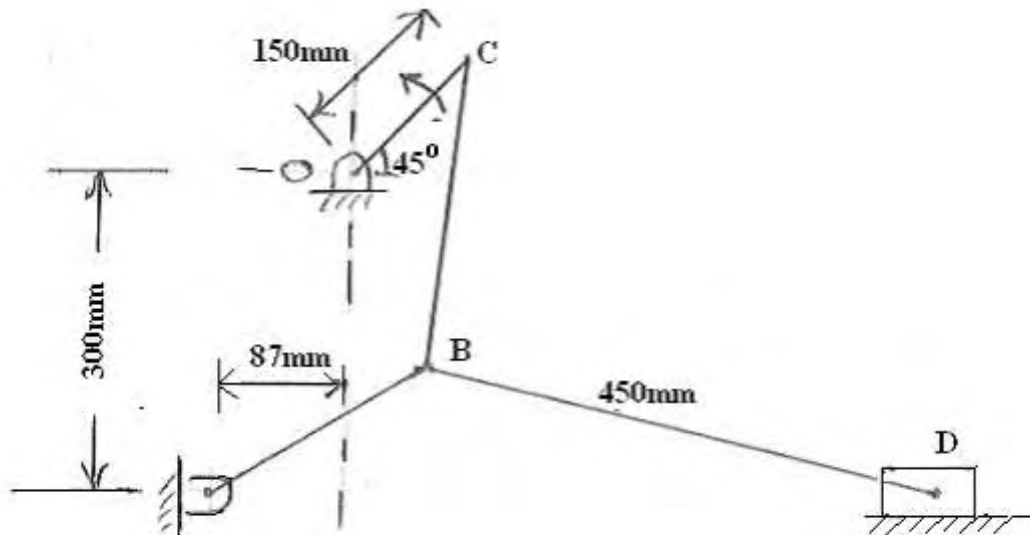

Figure 1
1. In the mechanism shown figure 1 D is constrained to move on a horizontal path. Find, for the given configuration, the velocity and acceleration of D and the angular velocity and acceleration of BD when OC is rotating in a counter-clockwise direction at a speed of 180 r.p.m., increasing at the rate of 50 rad/s^2 . [16]